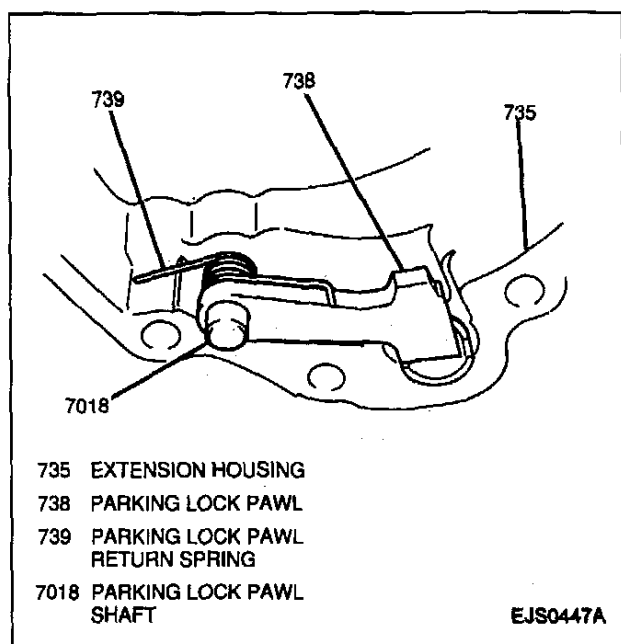

Figure 53—Parking Lock Pawl, Parking Lock Pawl Shaft and Return Spring (3L30, 3-Speed)
15. Parking lock pawl, parking lock pawl shaft and parking lock pawl return spring from extension housing (Figure 53).